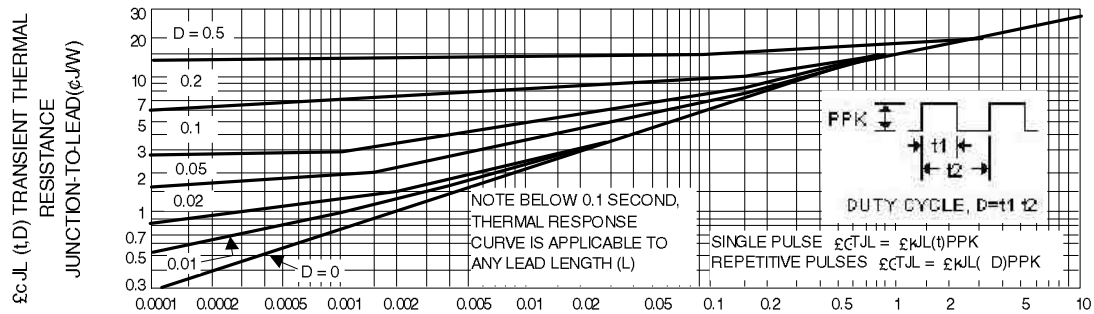
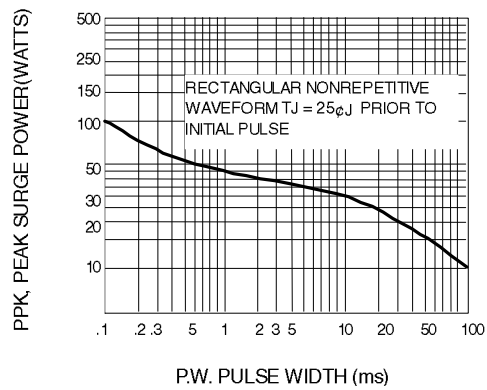
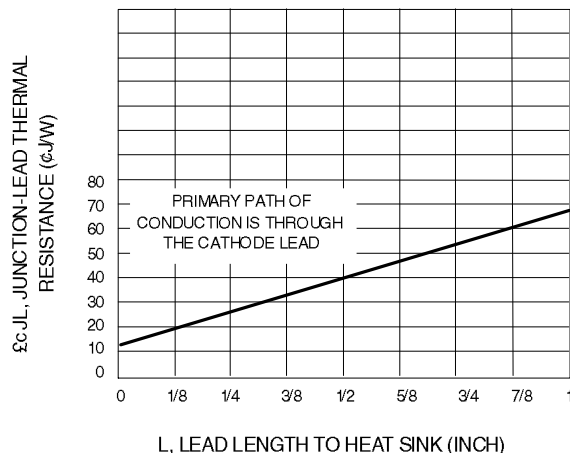

Fig. 2-TYPICAL THERMAL RESPONSE L,
Fig. 3-MAXIMUM SURGE POWER
Fig. 10-TYPICAL THERMAL RESISTANCE
4. SURGE CURRENT (I_r) NON-REPETITIVE - The rating listed in the electrical characteristics table is maximum peak, non-repetitive, reverse surge current of 1/2 square wave or equivalent sine wave pulse of 1/120 second duration superimposed on the test current, I_{ZT} , per JEDEC standards, however, actual device capability is as described in Figure 3.
ΔT_{JL} is the increase in junction temperature above the lead temperature and may be found from Figure 2 for a train of power pulses or from Figure 10 for dc power.
Data of Figure 2 should not be used to compute surge capability. Surge limitations are given in Figure 3. They are lower than would be expected by considering only junction temperature, as current crowding effects cause temperatures to be extremely high in small spots resulting in device degradation should the limits of Figure 3 be exceeded.